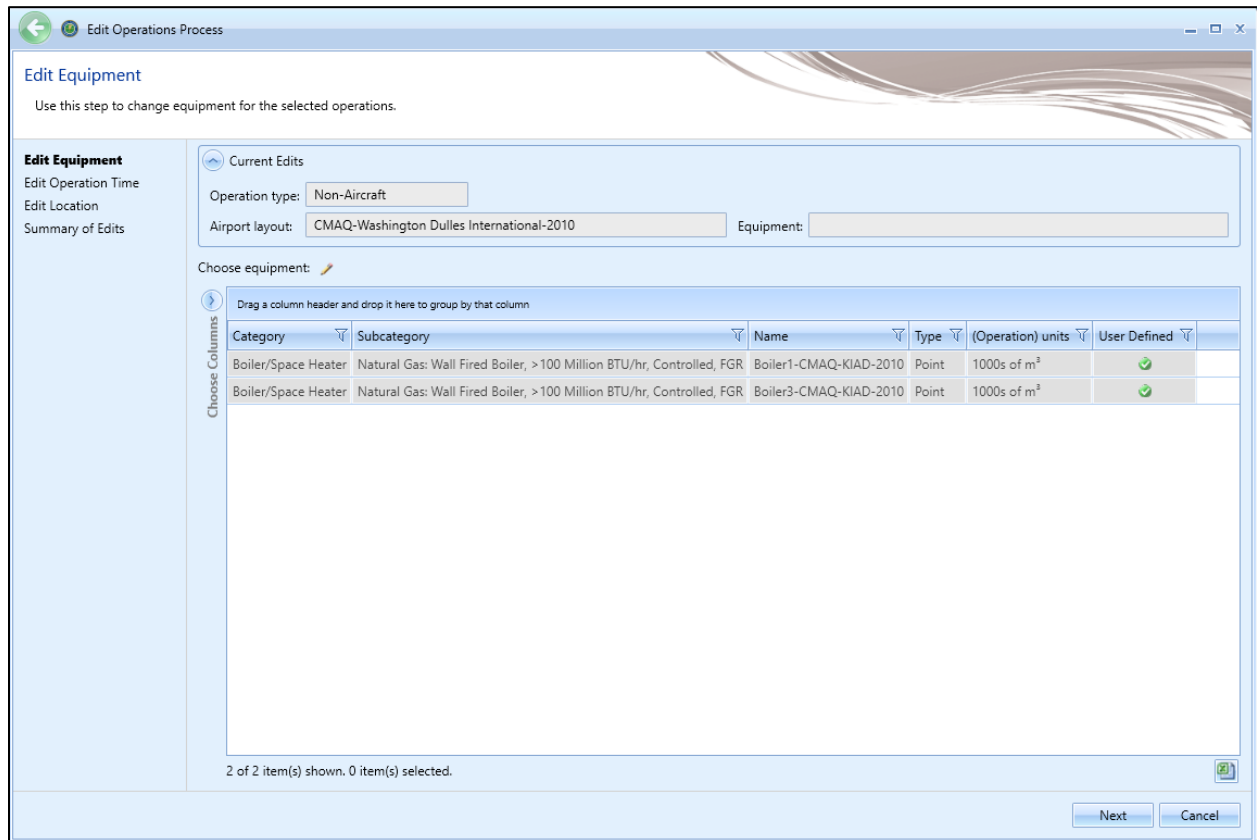

Figure 6-35 Bulk Non-Aircraft Operations Edit
3. In the *Non-Aircraft Actions* ribbon group, click *Edit* to open the *Edit Operations Process* wizard (Figure 6-35).